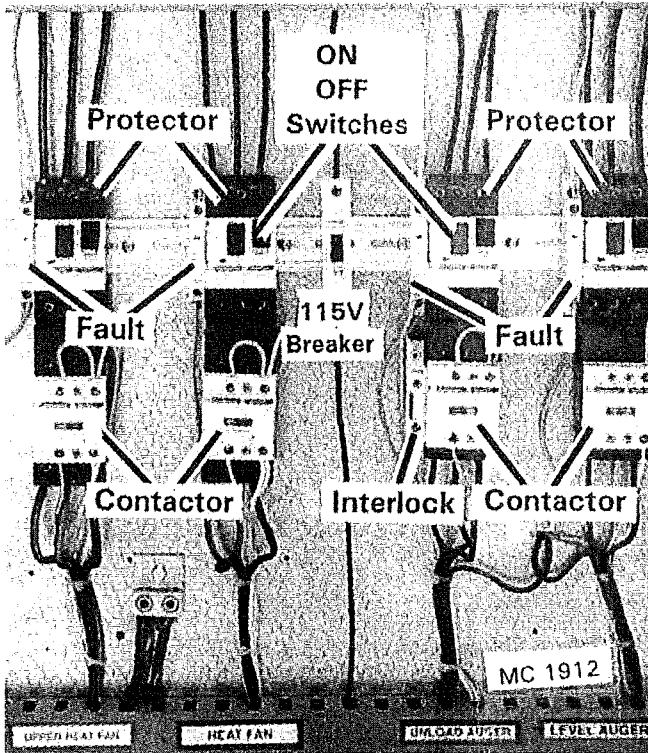

Figure 9 - Fan(s), Level & Unload Auger Motor Controls - 3 Phase 230V (720 Shown)
- A. **Three phase motors** – Move the wire from terminal T1 to T3 and T3 to T1 on the fan motor contactor in the motor control cabinet. See Figure 9.